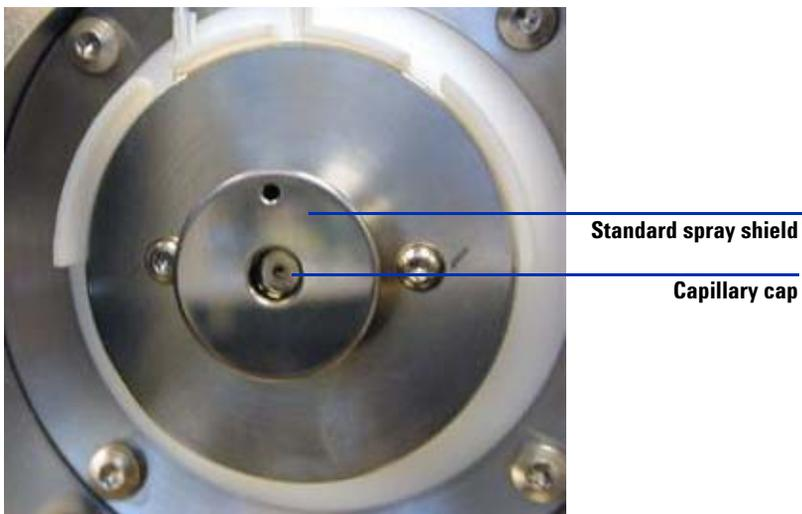

Figure 11 Standard spray shield and capillary cap for ESI or APCI
- 9 Unscrew and remove the spray shield. See Figure 11.